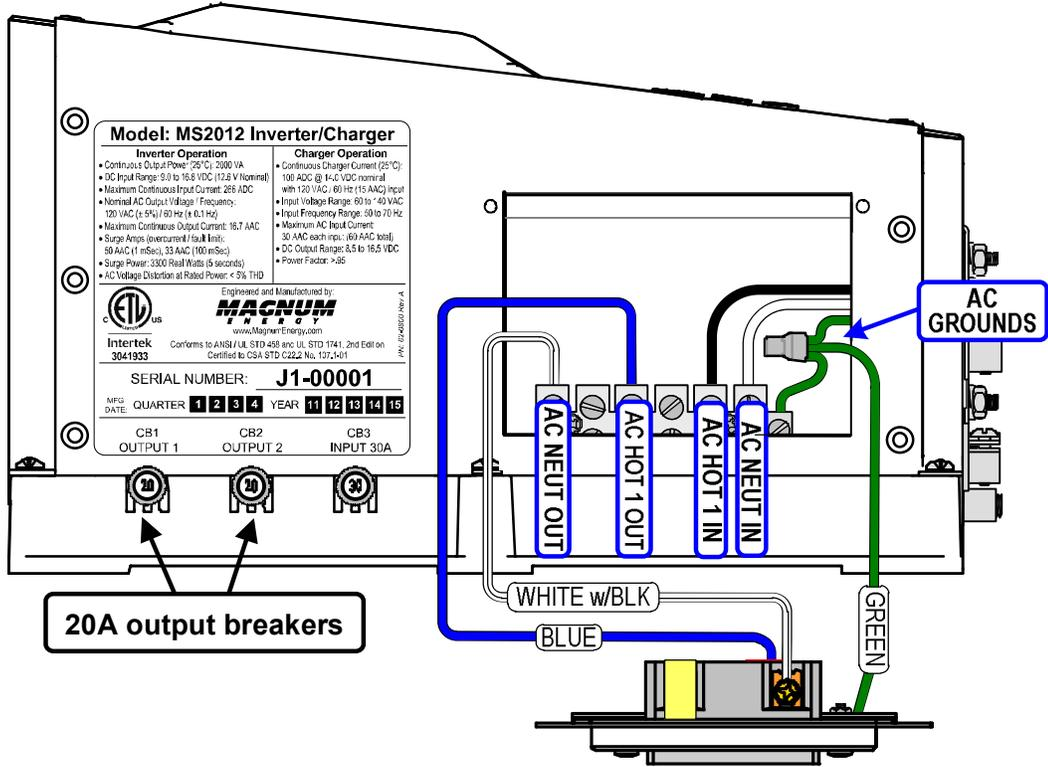

Figure 1, AC Output Wiring for MS2012-20B
3. Connect the GFCI outlet's 3 pre-stripped wires as follows (refer to Figure 1 for MS2012-20B models, or Figure 2 for MS2000-20B models):